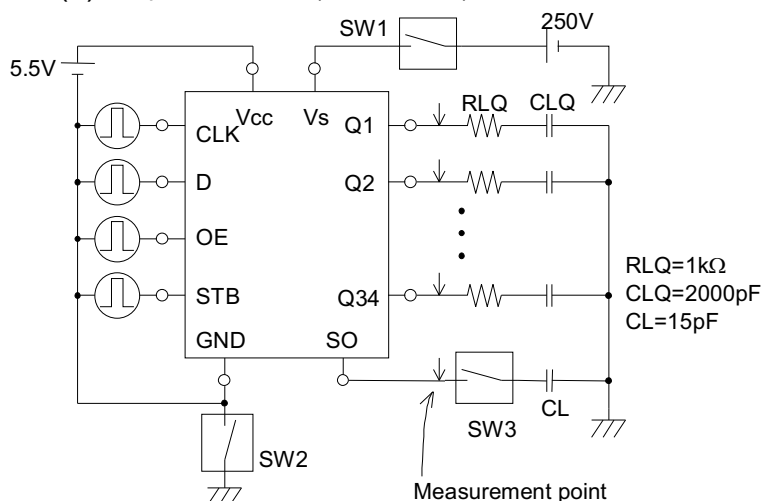

Fig. 5. Switching Characteristics Measurement Circuit
5. SWITCHING CHARACTERISTICS (Unless otherwise specified, Ta= 25°C, Vcc= 5.5V, Fig.5)